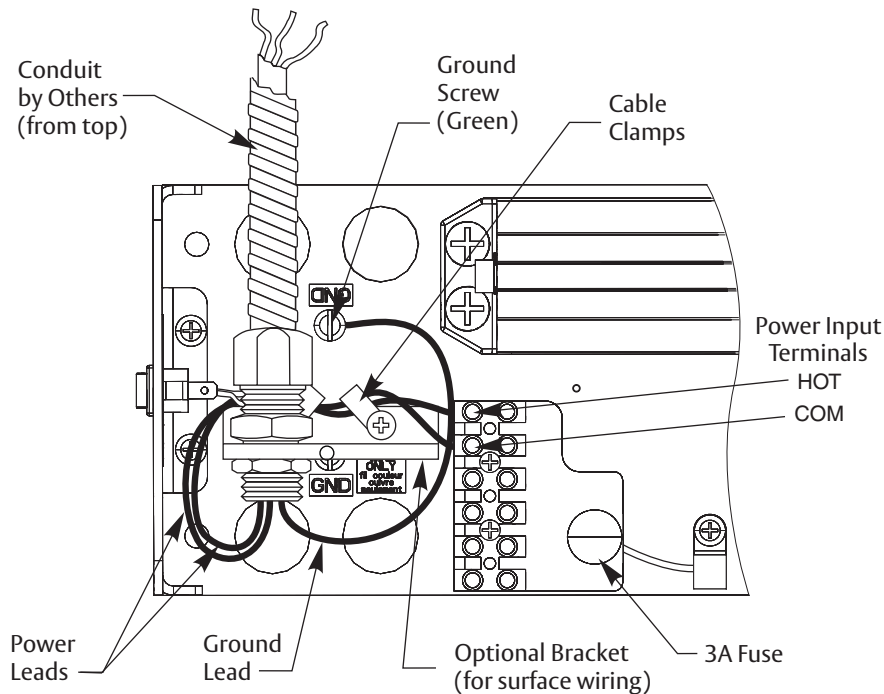

Figure 16
Surface Wiring (Figure 16)
3. After installing operator, attach incoming ground wire to backplate with ground screw as illustrated. (Figure 16)